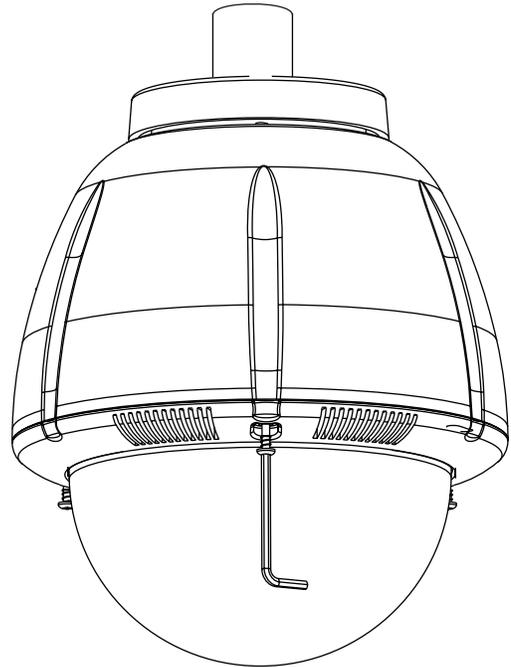

Figure 1
1. Open the housing by loosening the (3) captive screws located on the housing ring next to the lower clear dome (Figure 1). Be careful not to back these all the way out. Twist the dome slightly in a counterclockwise motion until it stops, then pull down to remove.